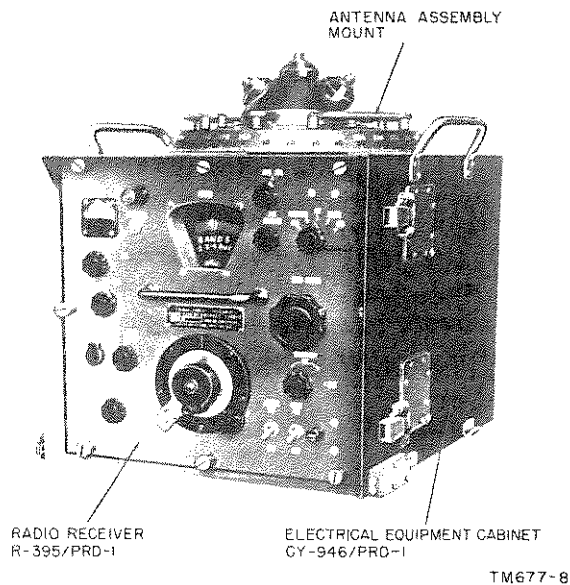

Figure 8. Radio Receiver R-395/PRD-1 housed in cabinet, cover removed.
a. Radio Receiver R-395/PRD-1 (fig. 8), is a 15-tube, superheterodyne type that operates in seven overlapping bands over a frequency range of 100 kc to 30 mc (par. 7). The unit is designed to receive am, cw, and icw signals throughout the total frequency range, and to receive fm signals in the frequency range of 12.5 mc to 30 mc. The panel of the receiver is provided with a handle for removing the unit from the cabinet. The schematic diagram of the receiver is shown in figure 84.
d. The antenna assembly mount is located on the top of Electrical Equipment Cabinet CY-946/PRD-1 (fig. 8). This is a two-piece rotary mounting that consists of an antenna mount and an azimuth scale disk (fig. 20). It is provided with slip rings and brushes (on the underside) for making electrical connections between the antenna mount and the antenna jack. The azimuth scale disk portion of the mount has two azimuth scales graduated in 1° intervals from 0° to 360°. A turning handle is provided to facilitate rotation of the azimuth scale and antenna assembly mount.